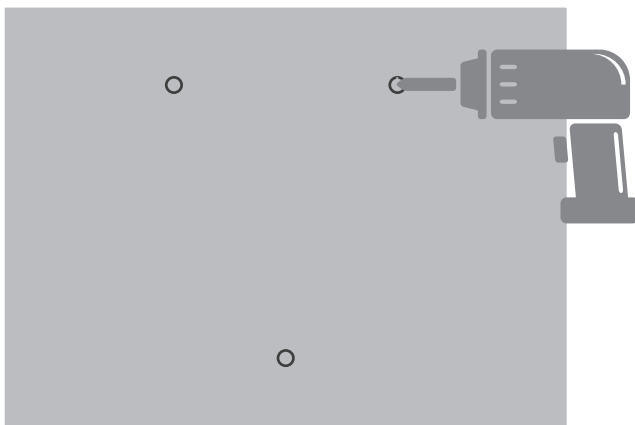

Fig. 5-5
3. Drill the mounting holes into the wall with a depth of at least 1.57" (40 mm). (See Fig. 5-5)